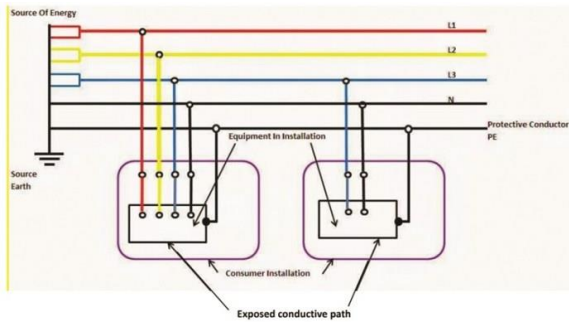

Figure 6: TN-S Earthing System
The power source is directly connected to the earth. All exposed conductive parts of the installation are connected to a protective conductor (PE) through the main earthing terminal of the installation, as shown in fig6.